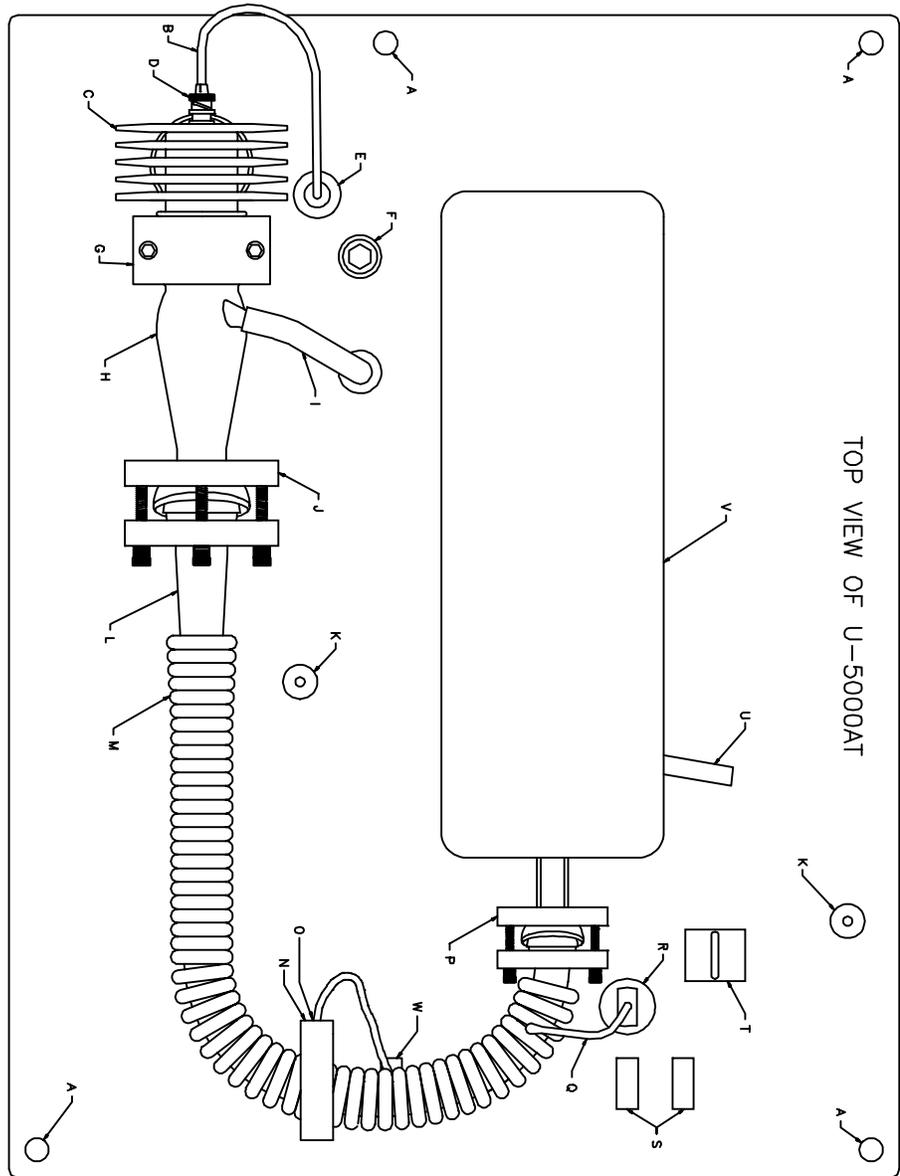

Figure 1.
- 1) Verify that the voltage select plug on the U-5000AT is stamped with the proper operating line voltage (100 VAC **or** 115 VAC **or** 230 VAC) (Figure 1: T and Figure 2: P). If the nebulizer is to operate on a voltage other than that stamped on the plug, contact CETAC or an authorized service representative for the proper plug.
- 5) Press the red POWER switch of the U-5000AT (Figure 2: S). The red light will illuminate. The temperature controller for the heated U-tube is preset at 140 °C and should stabilize in about 10 minutes (Figure 2: U). The temperature controller has stabilized when the "on" light on the front left of the temperature controller is intermittently lit and the two temperatures on the display both read 140 °C +/- 2 °C. The U-5000AT is equipped with a thermal safety switch (Figure 1: O). The thermal safety switch protects the unit from thermal overload.
Ensure the transducer cable has not become disconnected. If it has, connect the cable between the connector on the end of the transducer and the connector in the U-5000AT chassis (Figure 1: B,D,E and Figure 2: A).
- 2) Disconnect the transducer cable connector from the end of the transducer assembly (Figure 1: D).
- 3) Pull out the hex-head transducer wrench stored in the U-5000AT chassis (Figure 1: F). Hold the transducer assembly firmly with one hand and remove the three spring-loaded socket head screws using the wrench.
- 2) Check to ensure the RF cable between the transducer heat sink and the U-5000AT chassis is installed and securely connected (Figure 1: B,D,E and Figure 2: A).
Top View of the U-5000AT Ultrasonic Nebulizer (Figure 1)